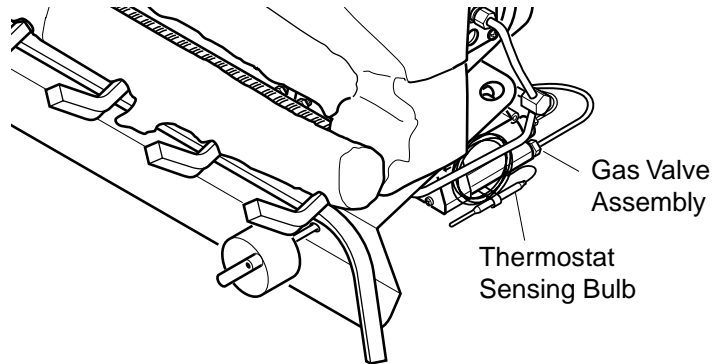

Figure 26 - Location of Gas Valve Assembly and Thermostat Sensing Bulb
1. Locate the gas valve assembly and thermostat sensing bulb (see Figure 26).